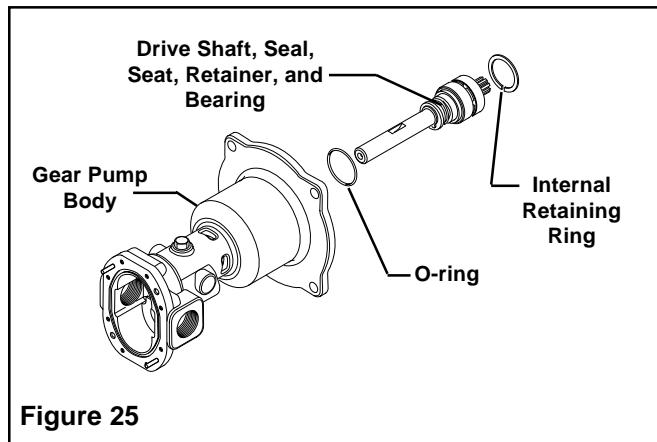

Figure 25
3. Install a new O-ring into the Gear Pump Body (See Figure 25).
4. Supporting the outer bearing race, press the new Bearing, Retainer, Seat, and Seal into the Gear Pump Body and Adapter (See Figure 25).
5. Install the Internal Retaining Ring at the back of the Gear Pump Body (See Figure 25).